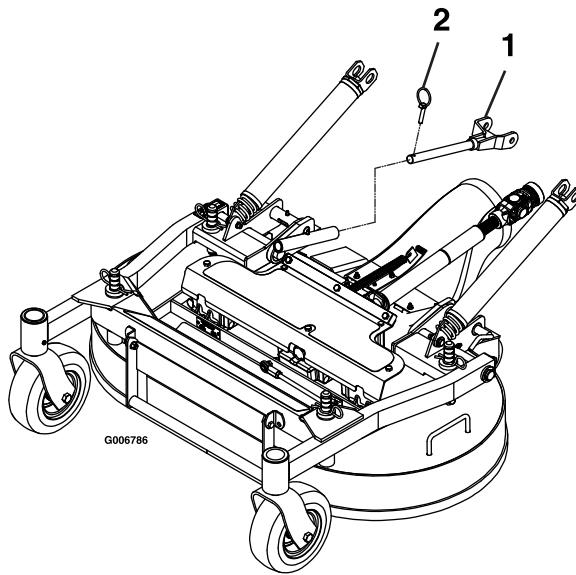

Figure 67
6. Remove the lynch pins at front of push arms on both sides of the machine (Figure 67).
- Secure the push arms with the lynch pins on the left and right sides of the machine (Figure 67).